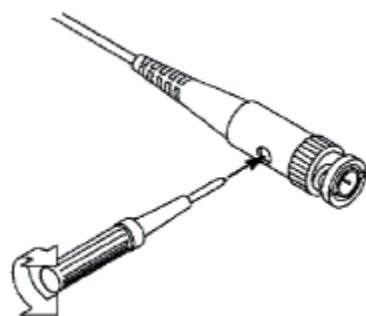

Figure 3-7 Adjust Probe
2. Check the displayed waveforms and regulate the probe till a correct compensation is achieved (see Figure 3-6 and Figure 3-7).